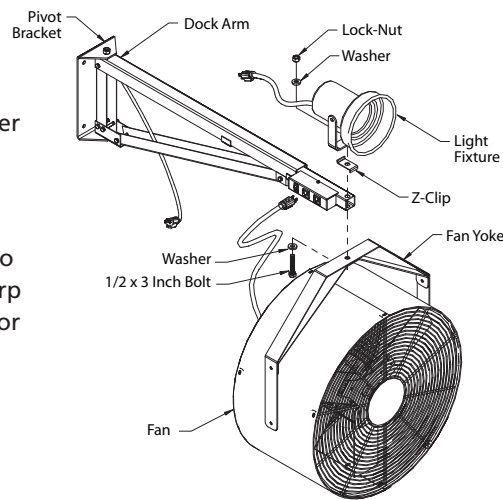

Figure 2 — Fan and Light Attachment
the fan yoke and arm. Refer to Figure 2.
- Plug fan into the outlet closest to the toggle switch on the dock arm, refer back to Figure 2. Route the fan cord in a loop to prevent pinching. Plug light in remaining outlet.